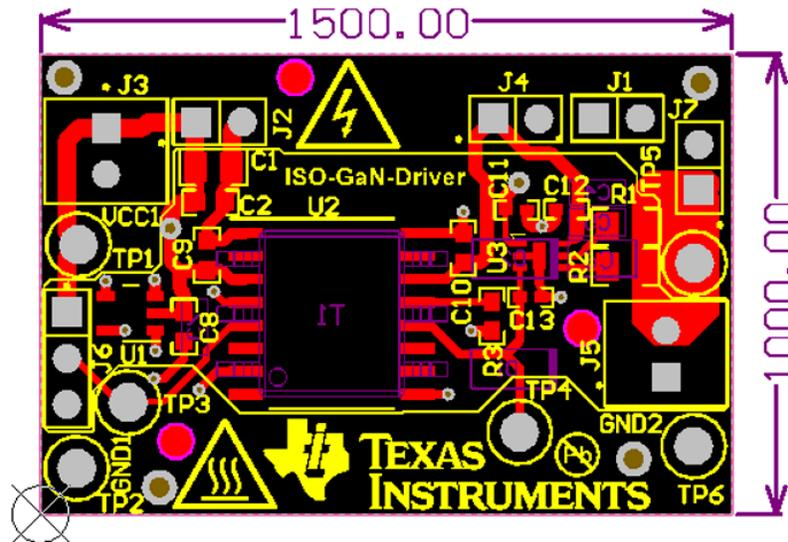
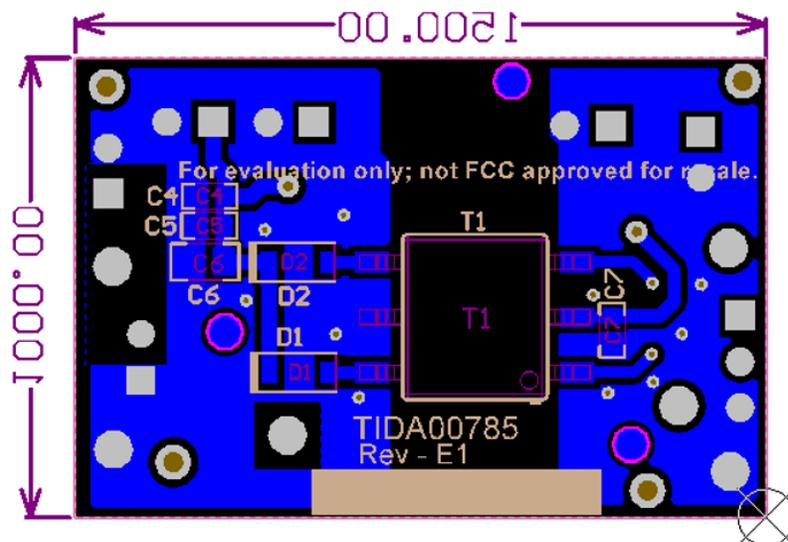

Figure 19. Top Layer Layout
Figure 20. Bottom Layer Layout
- SN6501 switches at 300 kHz. To reduce loop inductance and EMI, keep the minimum area the switching loops on both the input and output sides as shown in Figure 19 and Figure 20.